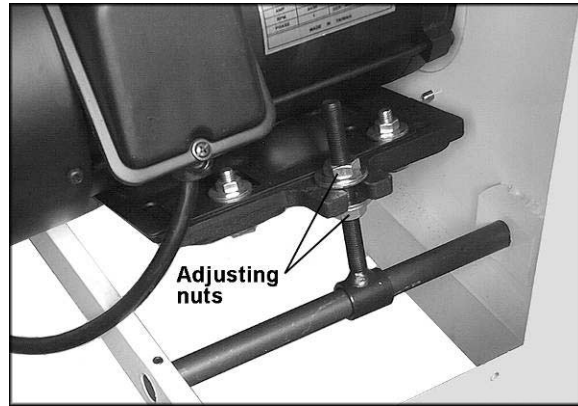
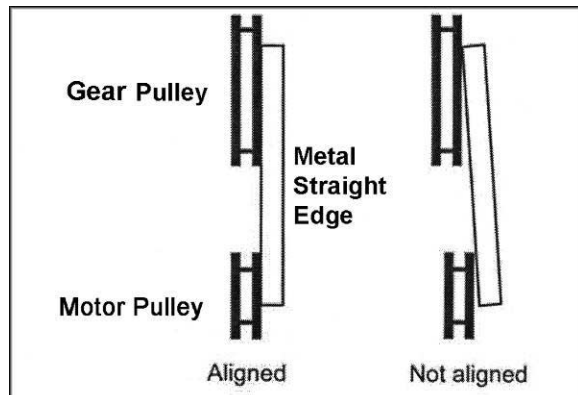

Figure 11
Figure 13
2. Loosen the bottom nut on the motor adjustment screw (Figure 11) with a 17mm wrench.
5. Tighten the bottom nut on the adjustment screw (Figure 11).
2. If the straight edge does not lie flat on both pulley faces, as shown in Figure 13, open the rear panel and loosen the four hex nuts on the motor plate (these are shown in Figure 11) with a 12mm wrench.